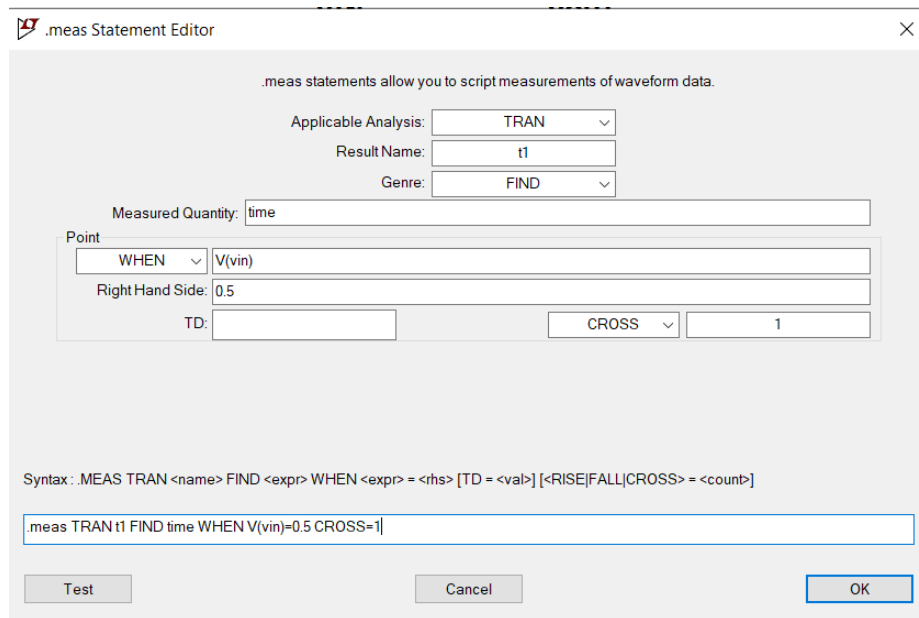

Figure 2.14 .meas Statement Editor
5. The “.meas Statement Editor” should appear. This is shown in Figure 2.14.
6. **Input the entries shown in Figure 2.14.** For clarity, this are listed below. Some entries can be selected from the drop-down list boxes. **Click OK when you are finished.**